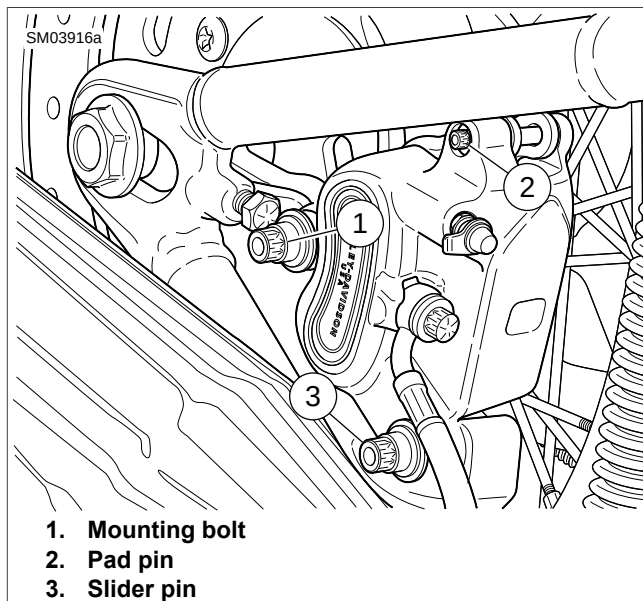

Figure 1-31. Rear Brake Caliper
3. See Figure 1-31. Loosen, but do not remove pad pin (metric) (2).
4. Remove mounting bolt (1) and slider pin (3). Pull rear caliper away from brake disc.
5. Remove pad pin (2) and pads.
12. See Figure 1-31. Install caliper. Tighten mounting bolt (1) and slider pin (3) to 16-20 ft-lbs (21.7-27.1 Nm).